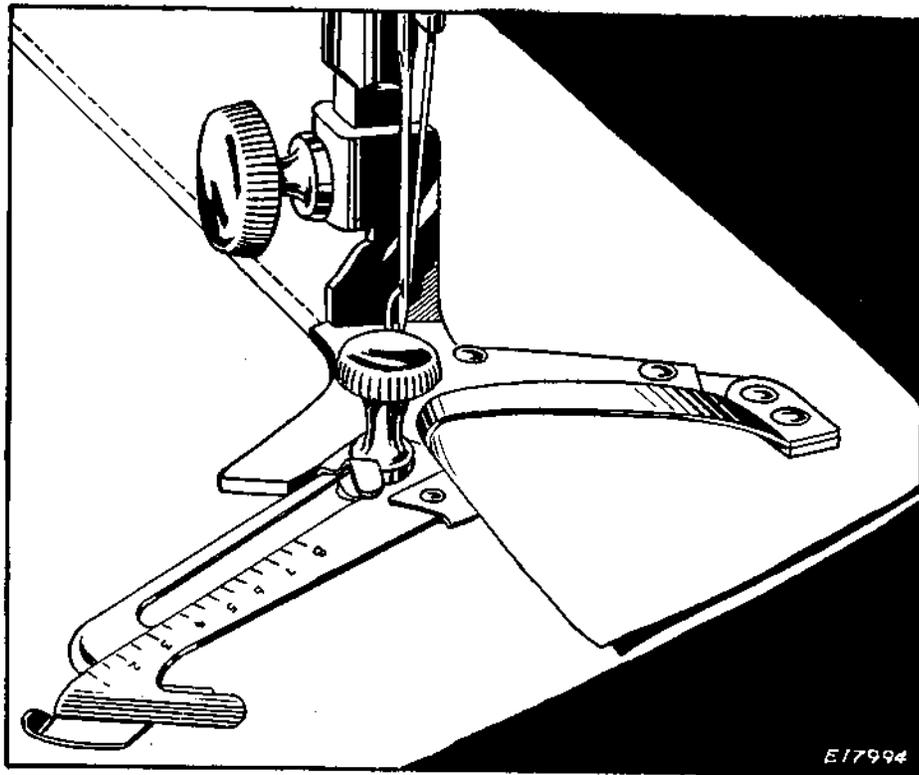

FIG. 43. SHOWING HOW ADJUSTABLE HEMMER IS USED FOR MAKING HEMS WIDER THAN $15/16$ INCH
- (1) Loosen the thumb screw on the hemmer, move the scale to the right as far as it will go, then swing it toward you, as shown in **Fig. 43**, and tighten the thumb screw.
- (2) Fold and crease the desired width of hem.
- (3) Place the fold under the extension at the right of the hemmer and the edge into the folder, as shown in **Fig. 43**.
- (4) Draw the end of the hem back under the needle, lower the presser bar and commence to sew.
- (5) Guide the cloth to keep the hem flat.